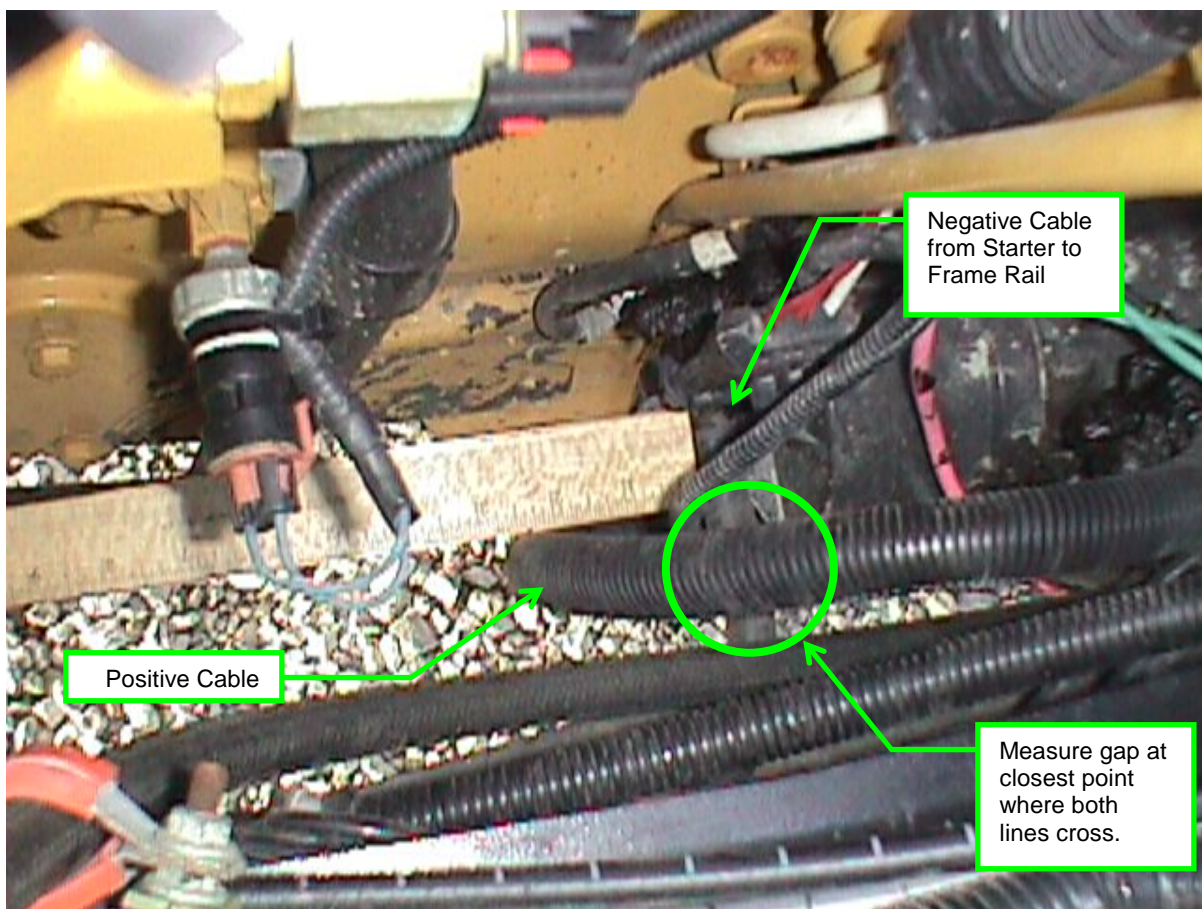

Figure 1 – Gap Measurement
3. Measure the smallest gap between the positive cable's conduit and the closest point to the negative cable bolted to the frame rail. See Figure 1.